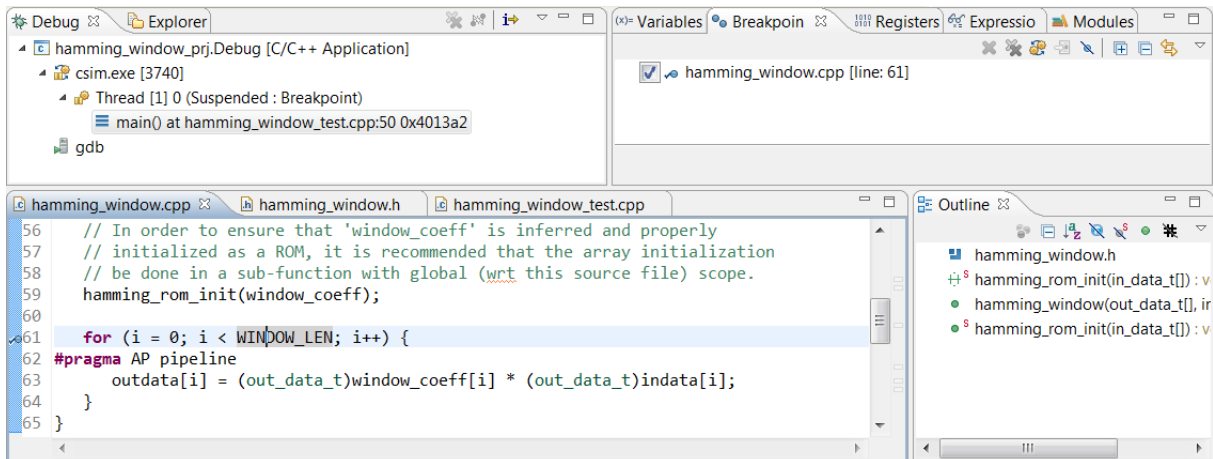

Figure 3-19: Debug Environment for C Validation Lab 3
5. Set a breakpoint at line 62 in the `hamming_window.cpp` file as shown in Figure 3-19.